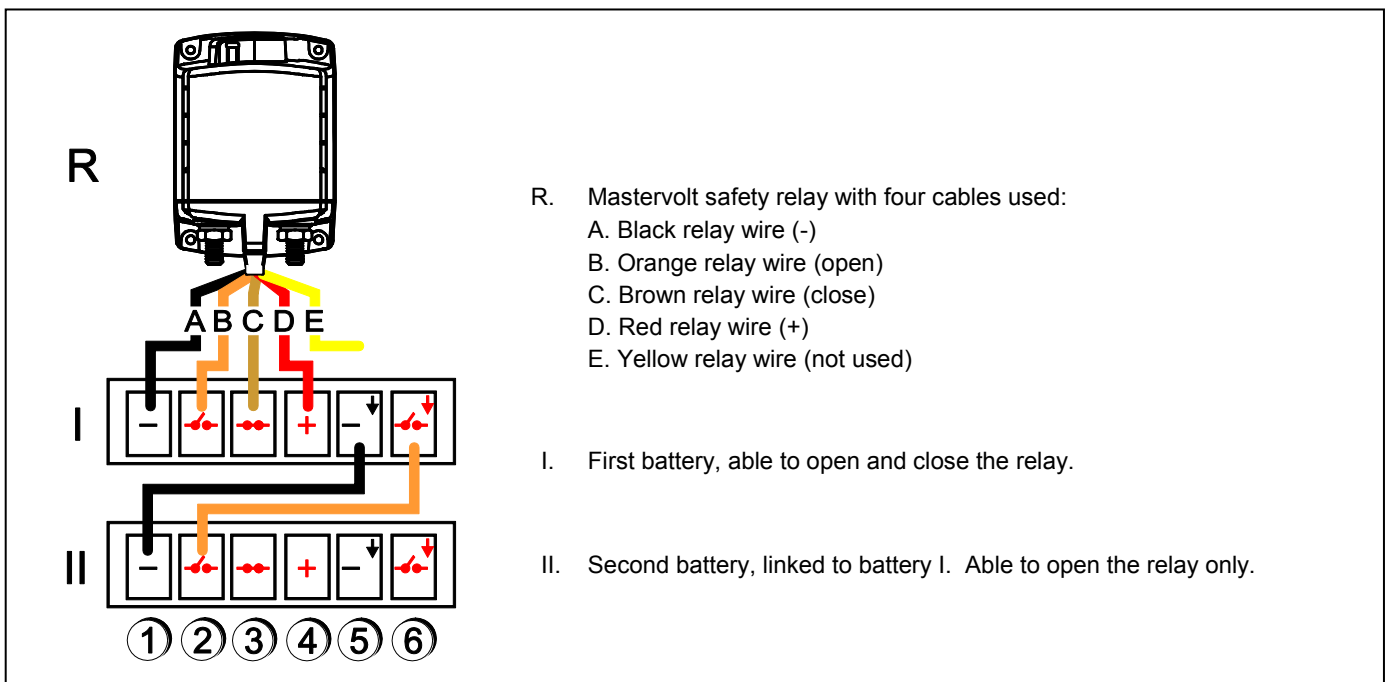

Figure 1-2: Shared relay for multiple batteries (max 2 in series)
See figure 1-2. Terminals 1 to 4 of the first battery (I) are connected to the relay, terminals 1 and 2 of the second battery (II) are connected to 5 and 6 of the first battery (I).
| 4. MasterBus display | 8. Relay cable | A-E. Refer to figure 1-2. |